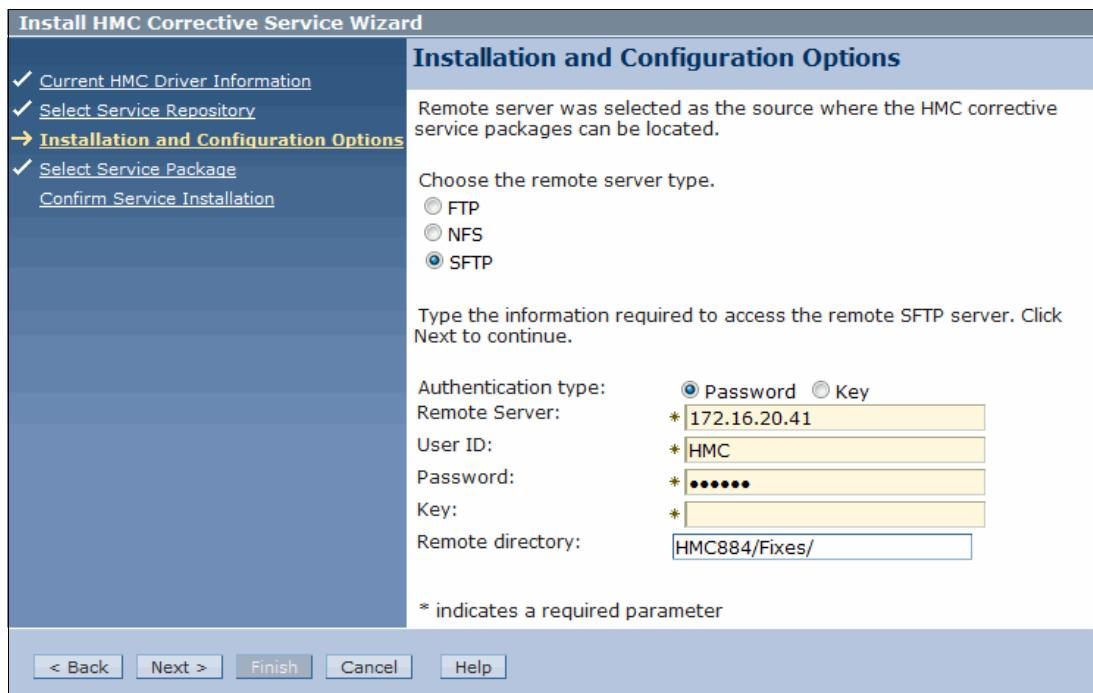

Figure 3-117 Installation and Configuration Options
5. The Installation and Configuration Options panel (Figure 3-117) shows several remote server options.